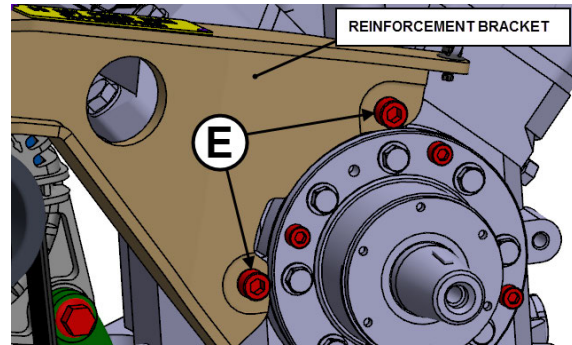

FIGURE 10
13. Unscrew and remove two socket cap screws **E** (**FIGURE 10**).